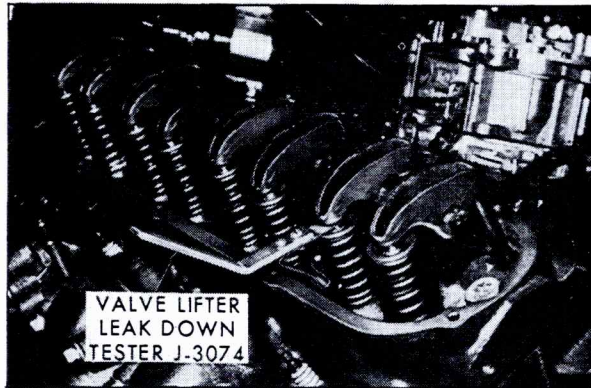

Fig. 6-108 Checking Lifter Leak-down Rate
8. Check each lifter listed in following table as shown in Fig. 6-108.
9. Insert feeler gage of tool between valve stem and rocker arm and at the same time, compress tool "pop-out" spring to its stock against valve spring retainer, Fig. 6-108.